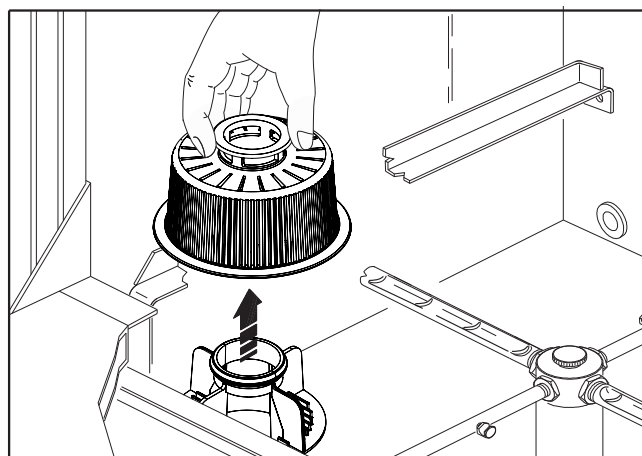

Fig. 17
5. Remove and clean the washing pump filter (fig. 17, page 70) and other tank filters if present